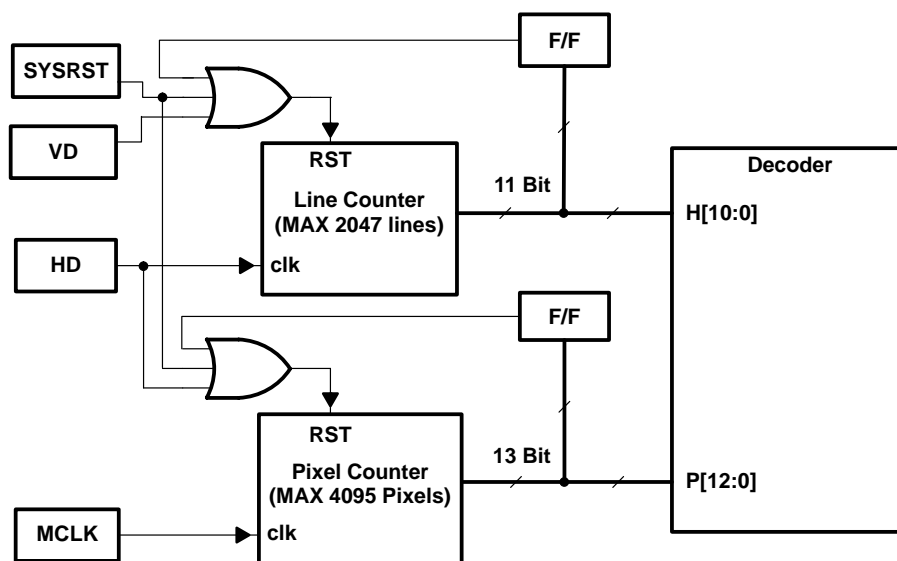

Figure 2–2. VSP2265 Line and Pixel Counter Block Diagram
Figure 2–1 shows a high-speed timing block of the TG. This part generates six high-speed pulses for H-rate timing such as R, H1/H2, SHP/SHD, and ADCCK. These high-speed pulses are generated from the master clock, which has a speed of twice the pixel rate. The serial interface sets the amount of phase adjustment for these high-speed pulses in 16 steps (8 steps for R) with a minimum 0.6-ns pitch (4 steps of 0.6 ns and 4 steps of 1.2 ns for R). The power mode controls the output driver enable/disable. An on-chip decoder calculates H clear according to the CCD model and operating mode. H1, H2, and R can drive the CCD directly. The ADCCLK, SHP, SHD, R, H1, and H2 pulses can select either the internal generation mode or the external supply mode.
An on-chip V-rate timing generator creates all the signals that are required for specific CCD image sensors. The TG contains the line and pixel counters used to generate V-rate timing. Figure 2–2 is the block diagram of the line and pixel counter circuit. A maximum 2047 lines and 4095 pixels per line are supported in time scale.
Figure 2–4 shows a V-rate timing generator block diagram. By one H (horizontal line) before CCD readout, serial data transfer must be completed by the user, and data must be loaded in the registers containing CCD model, operation mode, integration time, and electronic zoom area information. Just before CCD readout, information in the registers is supplied automatically to the decoder, which generates the V-rate signal using line counter and pixel counter data. Not only the signals used for the CCD, but also the strobe light control signal is supported. CPOB, CLPD, and PBLK can select either the internal generation mode or the external supply mode.
To extract the video information correctly, the CCD signal must be referenced to a well-established black level. The VSP2265 has an auto-zero loop (calibration loop) to establish the black level using the CCD optical black (OB) pixels. Figure 2–8 shows the block diagram of this loop. The input signal level from the OB pixels is identified as the real black level, and the loop is closed during this period (actually during the period while CPOB = ACTIVE). While the auto-zero loop is closed, the difference between the ADC output code is evaluated and applied to the decoder, which then controls the 10-bit current DAC. The current DAC can charge or discharge the external capacitor at COB, depending on the sign of the code difference. The loop adjusts the voltage at COB, which sets the offset of the CDS to make the code difference zero. Thus the ADC output code converges to black level during CPOB = ACTIVE and maintains the black level derived from the OB pixels after the loop has converged. CPOB performs the OB clamping of both channels simultaneously.